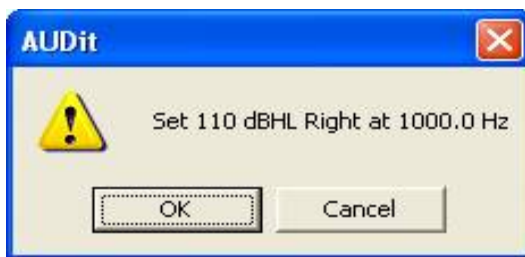

FIGURE 8-2 Level and Frequency Set Dialog Box
- Step 4** Click the **Measure All** button to perform a linearity test on the right earphone. AUDit then displays the prompt shown in Figure 8-2 to measure the lower end of the test range: